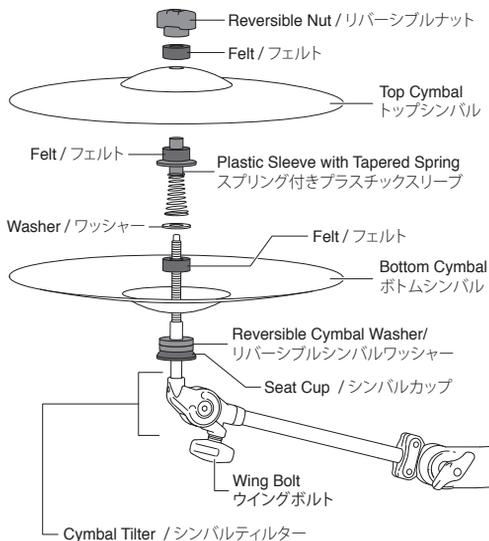

Fig.4 / 図4
4. The CLH-70 is designed to accommodate traditional Cymbal shapes in diameters of 7"-14". To install the cymbals, loosen the Wing Bolt of the Cymbal Tilter and adjust it upwards for cymbal installation. Next, loosen, and remove the Reversible Nut and Felts/Spring (Fig.4). Depending on the Cymbals used, adjust the Reversible Cymbal Washer for the desired sound.
Install the cymbals, as shown in (Fig.4). For other various sound options, adjust the tension of the Reversible Nut of the Cymbal Holder until the desired sound is achieved.
4. ウイングボルトでシンバルティルターを上向きに調整した後、図のようにシンバルを取り付けます。お好みの音色になるよう、リバーシブルナットの締め付けを調整してください(図4)。